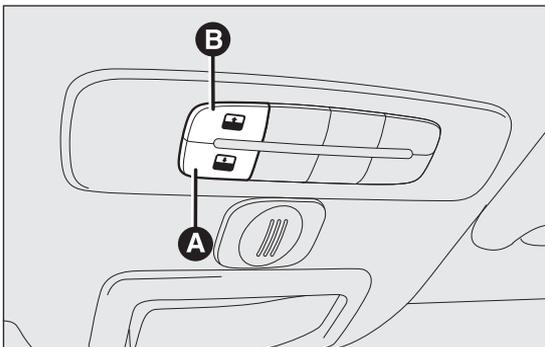

fig. 45
The sun roof can be operated only with the ignition key turned to MAR-ON. The controls A and B fig. 45 are located near the front courtesy light and operate roof closing/opening respectively.
Keep the button B fig. 45 pressed: the roof will move to "spoiler" position. To fully open the roof press the button B again and keep it pressed: the roof will stop in the position reached when the button is released.
Keep the button A fig. 45 pressed: the roof will move to "spoiler" position. The roof will stop in the position reached when the button is released. Press the button A again and keep it pressed until the roof is completely closed.
- keep the button A fig. 45 pressed so that the roof closes completely in stages